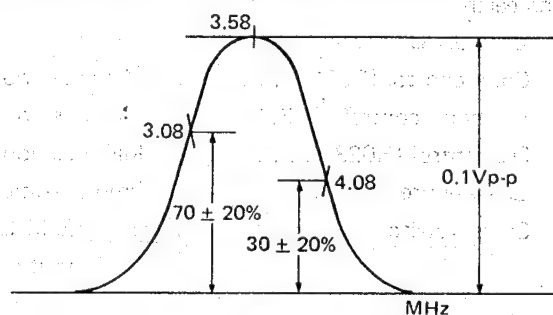

Fig. 20
3. Adjust T602 to obtain the waveform as in fig. 20.